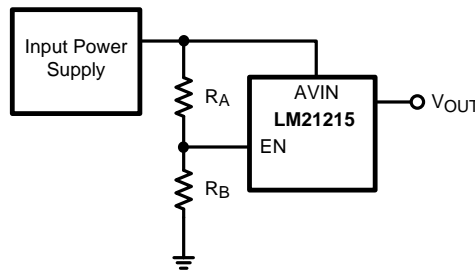

Figure 27. Enable Startup Through Vin
The LM21215 has a built-in under-voltage lockout protection circuit that keeps the device from switching until the input voltage reaches 2.7V (typical). The UVLO threshold has 200 mV of hysteresis that keeps the device from responding to power-on glitches during start up. If desired the turn-on point of the supply can be changed by using the precision enable pin and a resistor divider network connected to VIN as shown in Figure 27 in the design guide.
The enable (EN) pin of the LM21215 allows the output to be toggled on and off. This pin is a precision analog input. When the voltage exceeds 1.35V, the controller will try to regulate the output voltage as long as the input voltage has exceeded the UVLO voltage of 2.70V. There is an internal current source connected to EN so if enable is not used, the device will turn on automatically. If EN is not toggled directly the device can be preprogrammed to turn on at a certain input voltage higher than the UVLO voltage. This can be done with an external resistor divider from AVIN to EN and EN to AGND as shown below in Figure 27.